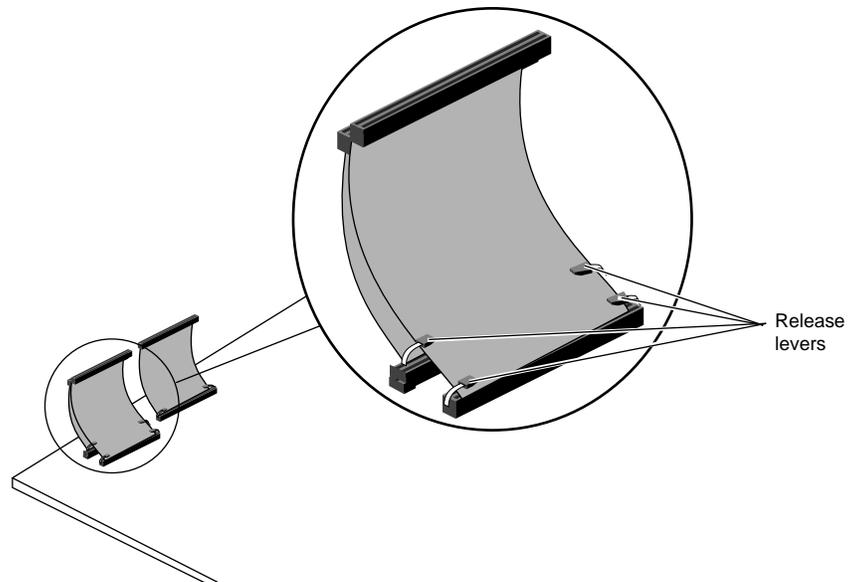

Figure 1-19 Slipping the Inner Cable Through the Outer Cable Levers
2. Slip the inner cable through the levers of the outer cable of the two-cable set. See Figure 1-19.